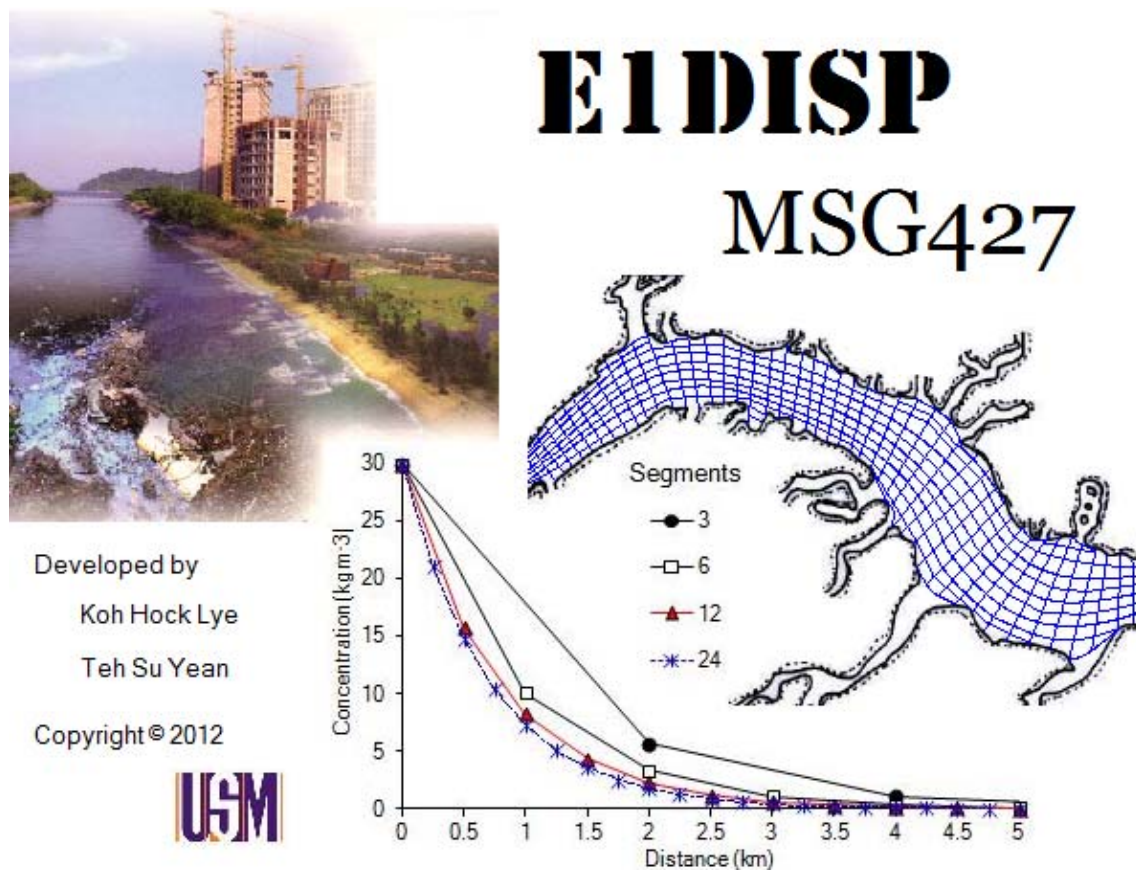

Figure 1: Windows-based E1DISP model
Figure 1 shows the windows-based E1DISP model that solves the advection-dispersion equation (1) using the finite segment method.